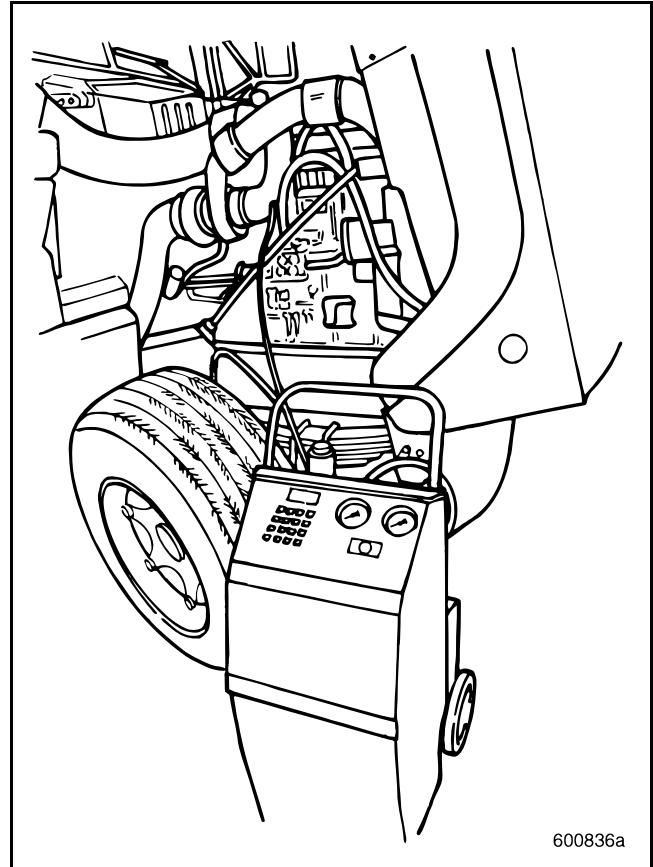

Figure 125 — Recovery-Recycling Station
3. Evacuate the refrigerant from the air conditioning system using a UL/SAE-approved recovery-recycling station similar to the unit shown in Figure 125.